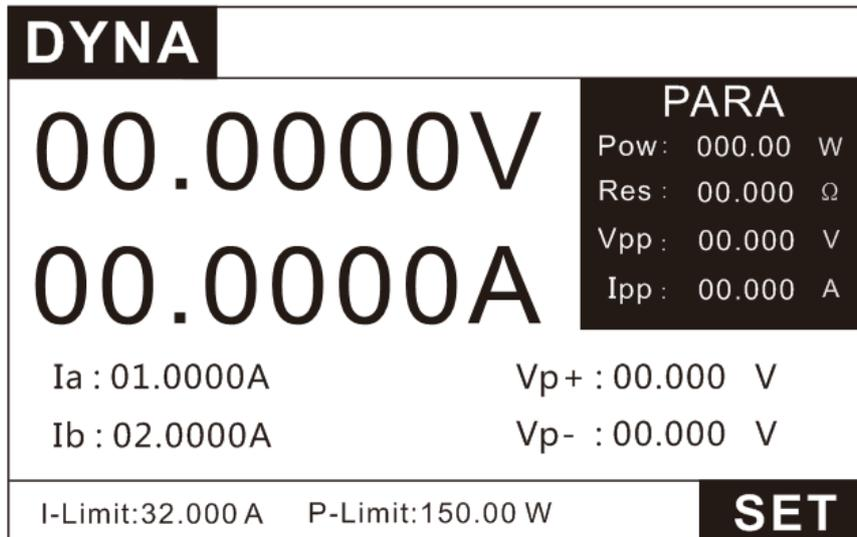
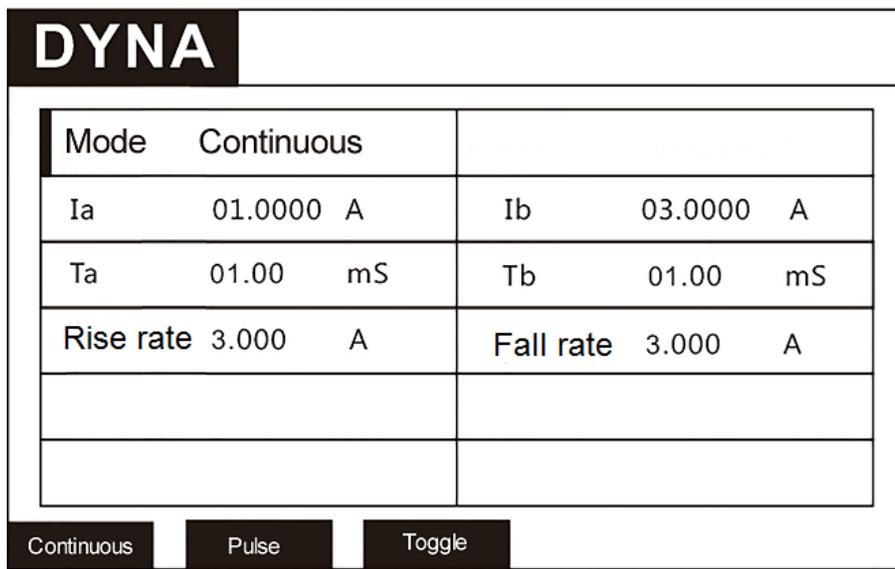

Figure 3.16 DYNA testing Page
Figure 3.17 DYNA Setting Page
1. Press the key **MODE** to enter the mode selection page, press the up and down keys to select DYNA, and press the key **ENTER** to enter the DYNA test interface, as shown in Figure 3.16.
2. In Figure 3.16, press the key **SET** to enter the setting interface, as shown in Figure 3.17.
3. As shown in Figure 3.17, set the test mode to continuous test, high current $I_b=3A$, high time $T_b=1mS$, low current $I_a=1A$, low time $T_a=1mS$, rise/fall rate $=3A/uS$.